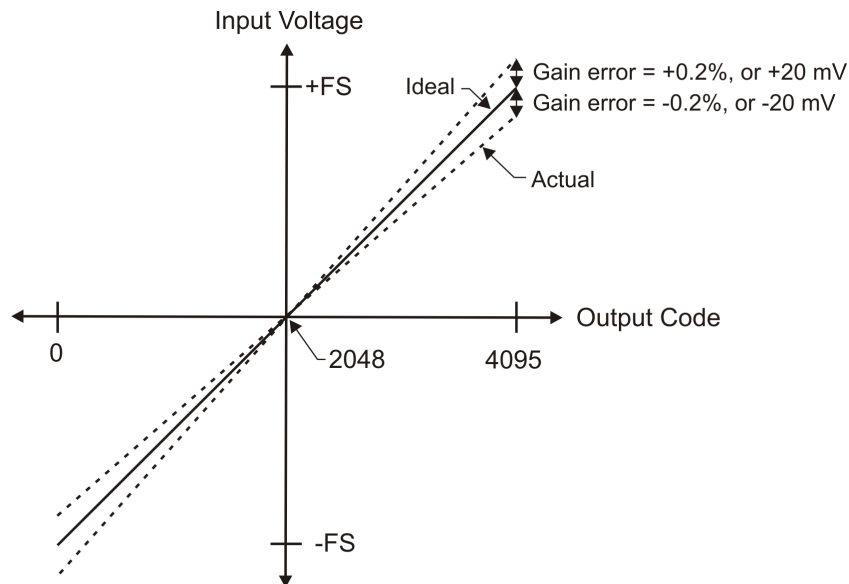

Figure 11. ADC Transfer function with gain error
Gain error is a change in the slope of the transfer function from the ideal, and is typically expressed as a percentage of full-scale. Figure 11 shows the OM-USB-1208FS transfer function with gain error. Gain error is easily converted to voltage by multiplying the full-scale (FS) input by the error.
**The accuracy plots in Figure 11 are drawn for clarity and are not drawn to scale.**